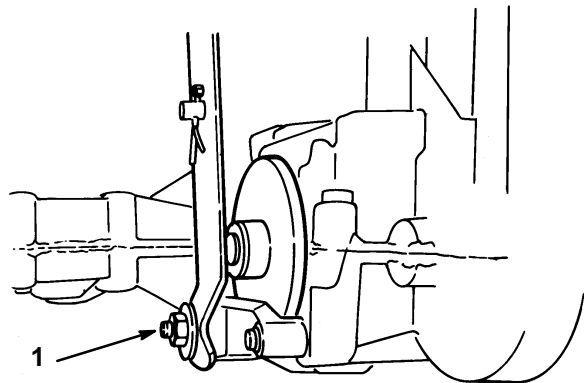

Figure 24
Adjust brake pucks if the parking brake does not hold or braking power is not sufficient when brake pedal is depressed. The brake is located on the left side of the transaxle (Fig. 24).
2. Tighten locknut approximately 1/4 turn clockwise (Fig. 24).